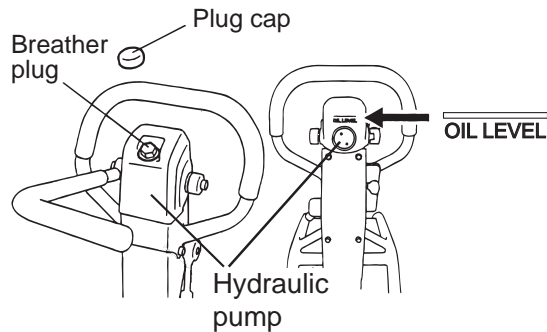

Figure 29. Removing Plug/Breather Cap
1. With the handle in vertical position, remove the plug cap from the hydraulic pump (Figure 29).
8. Pour hydraulic oil (550 cc) to the hydraulic pump breather plug attachment hole (Figure 29).